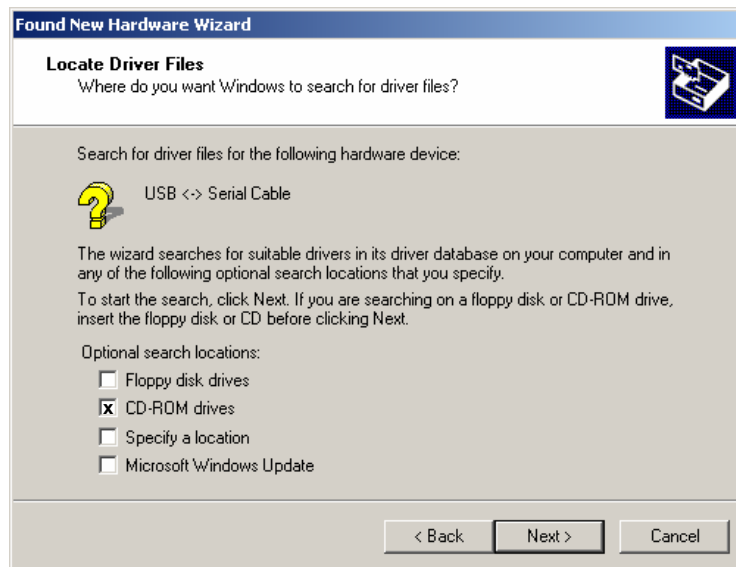

Figure 28. Found New Hardware Wizard Window #3
7. At the next “Found New Hardware Wizard” window (Figure 28), check the box next to “CD-ROM drives” and uncheck all others. Click next.